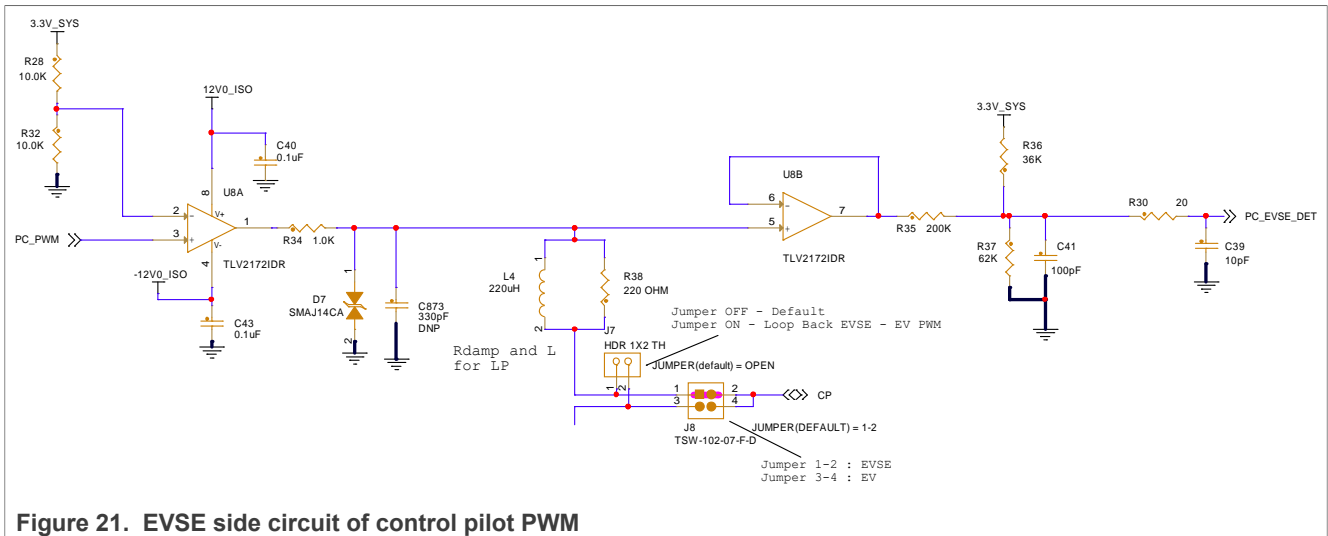

Figure 21. EVSE side circuit of control pilot PWM
The J1772 PWM circuit in EVSE-SIG-BRD2X is configurable to the electric vehicle supply equipment (EVSE) side or electric vehicle (EV) side interface using board jumper settings. The implementation is shown in Figure 21.
The control pilot EVSE circuit shown in Figure 21 amplifies the PC\_PWM signal, which is a 1 kHz PWM signal generated using the LPC5536/LPC55S36 MCU. U8 is a high-speed rail-to-rail op-amp with fast rise time to meet the requirements of EVSE standards. The op-amp U8A is powered with the +12 V and -12 V supply rails and it produces the ±12 V PWM at its output. The output is passed through a low-pass-filter (L4 and R38) to filter out the high-frequency signal coupling occurred due to the high-level signaling produced by the HPGP CG5317 analog circuit. Therefore, the LPC5536/LPC55S36 MCU controls the levels of the PWM signal (CP) as follows: